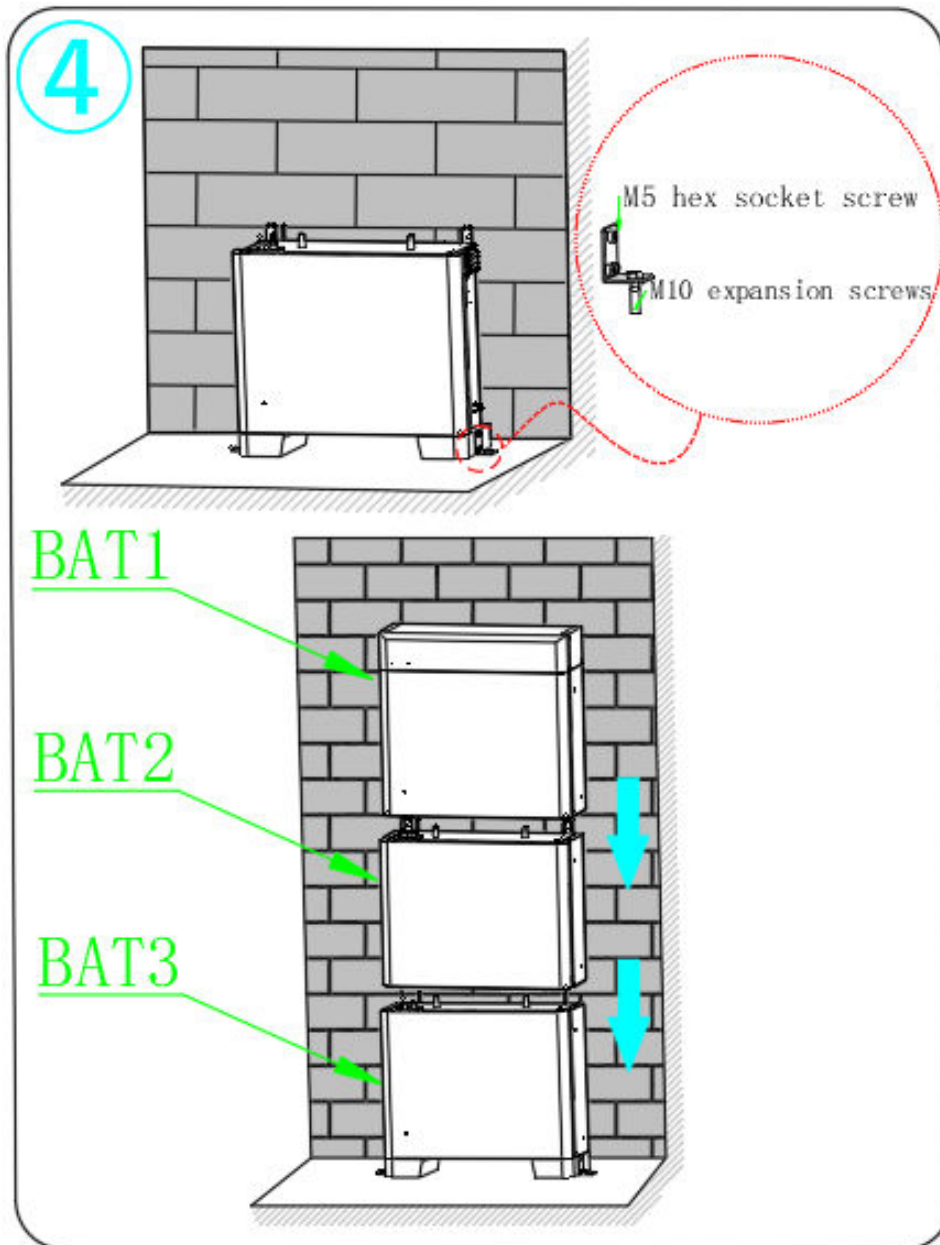

FIGURE 3.5: STEP4
- Step 4: First, fix the foot block on the battery pack with M5 hex socket screws, then fix the battery pack "BAT3" on the ground with M10 expansion screws, and then stack "BAT2" and "BAT1" in sequence. Figure 3.5 shows.